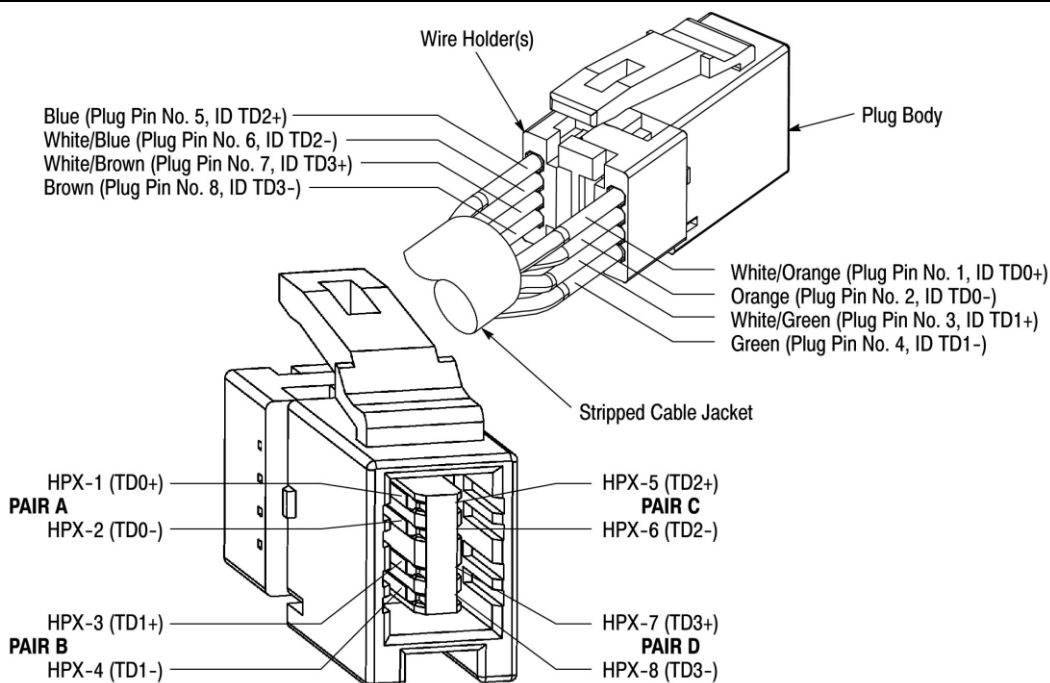

Figure 3
2. Insert the discrete wires into the wire holders according to the wiring diagram provided in Figure 3 until bottomed. After wire insertion, the holders shall be sandwiched on the plug body prior to crimping. See Figure 3.